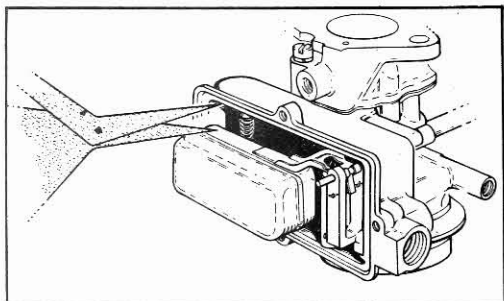

Figure 1
Place gasket (36) on economizer assembly (35), cover (34) and position all three parts while guiding screws (33) to insure alignment. Tighten to body securely. Install fuel inlet needle and spring on float lip. Guide needle into seat bracket (28), position float (30) and install pin (29). Install screw (26), gasket (27) and gasket (32) inside body onto threaded end of screw (26). Set assembly (28), float (30) into position and tighten screw (26) securely. Install fitting (24) and gasket (25). Using gauge supplied, refer to Figure 1 and adjust float as outlined.
### FLOAT ADJUSTMENT (Figure 1)